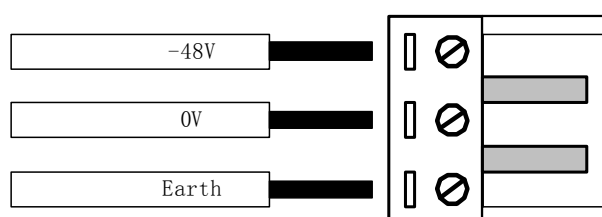

Fig. 3-5 -48VDC Connector Wiring
-48VDC power supply is connected to the LM through the PWR-IN socket, a plug is supplied for the socket. Connect power wires to the plug according to Fig. 3-5. Insert the prepared wire end into the hole on the left end of the plug, tighten the screw to securely fix